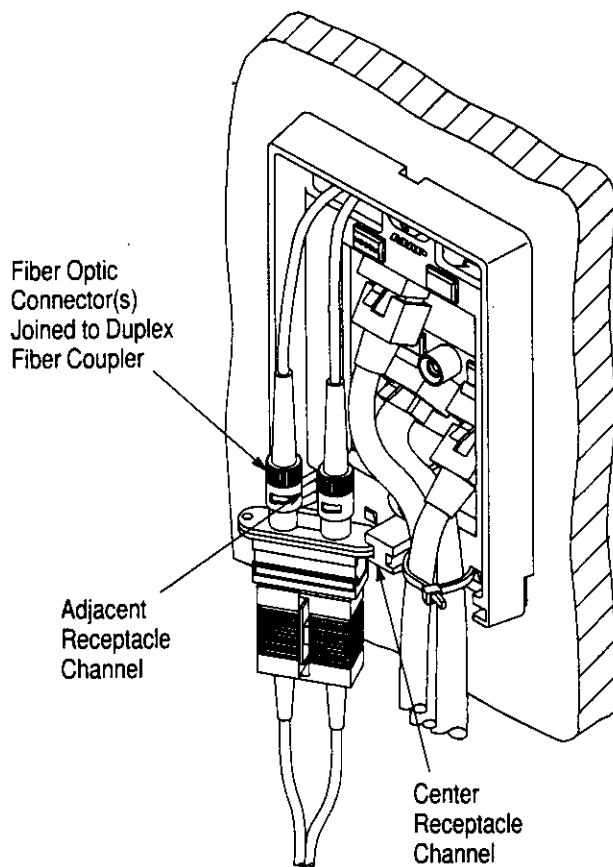

Figure 5
8. Join the wall-side and office-side fiber optic connectors to the duplex fiber coupler; then slide one side of the duplex fiber coupler into the center receptacle channel in the subplate and snap the other side of the coupler into the adjacent channel. Refer to Figure 5.